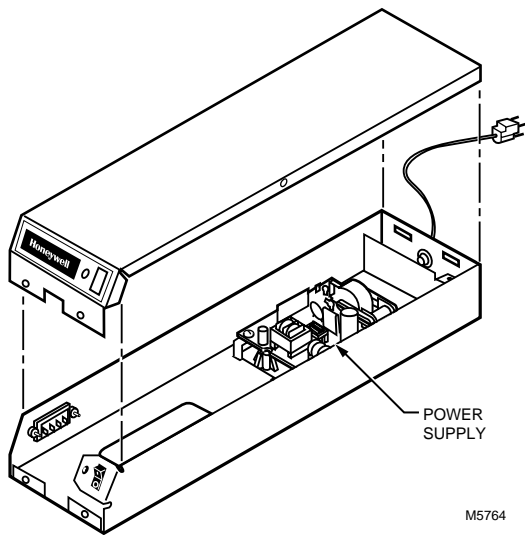

Fig. 2. Power supply location on F50F and F58F.
- Disconnect the leads from 1, 2, 3, 4, P1, P2, P3, P4, P5, P12, P14, P17, P18 and P21 on the old power supply. See Fig. 2 through 5.